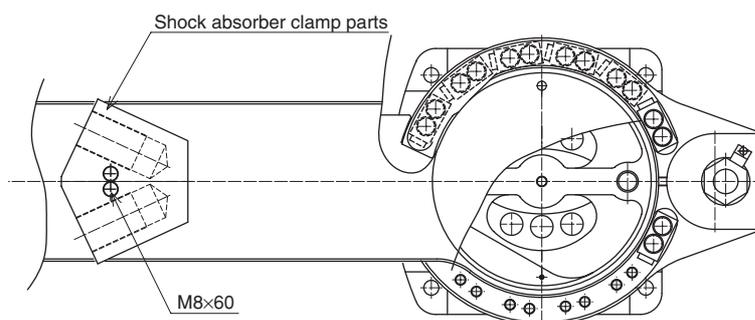

Fig. 3-101
- 6) Install the shock absorber clamp parts using the mechanical stopper clamp bolt holes in the Y-axis arm. (Fig. 3-101, Clamp bolt: M8 × 60)